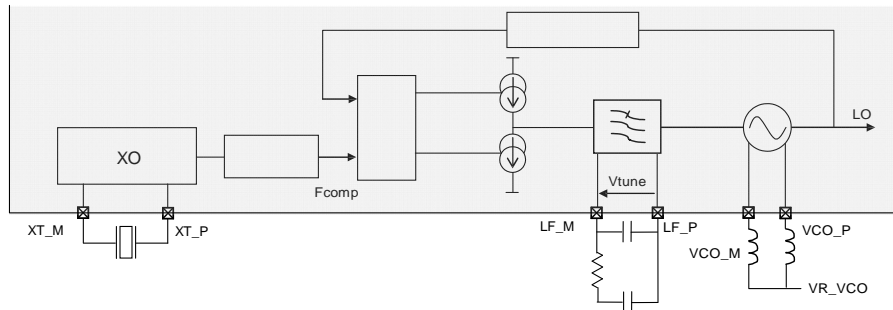

Figure 5: Frequency Synthesizer Description
The crystal oscillator (XO) forms the reference oscillator of an Integer-N Phase Locked Loop (PLL), whose operation is discussed in the following section. Figure 5 shows a block schematic of the RFM64B PLL. Here the crystal reference frequency and the software controlled dividers R, P and S determine the output frequency of the PLL.
As shown in Figure 5 the PLL structure comprises three different dividers, R, P and S, which set the output frequency through the LO. A second set of dividers is also available to allow rapid switching between a pair of frequencies: R1/P1/S1 and R2/P2/S2. These six dividers are programmed by six bytes of the register MCPParam from addresses 6 to 11.